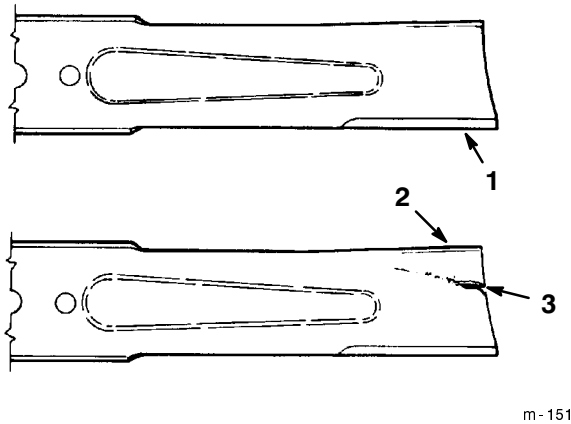

Figure 8
1. Inspect the blades, especially the curved area (Fig. 8). If you notice any damage, wear, or a slot forming in this area (item 3 in Fig. 8), immediately install a new blade.